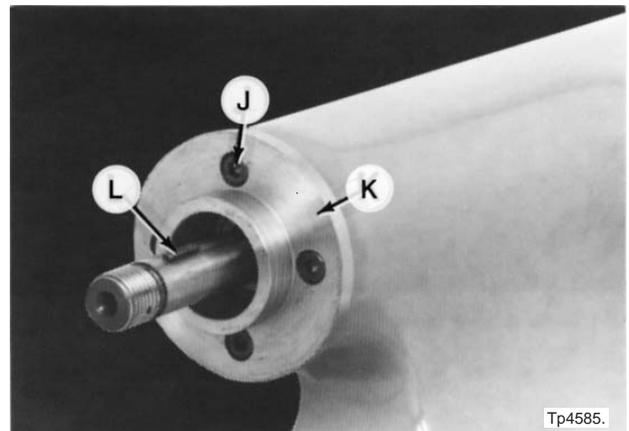
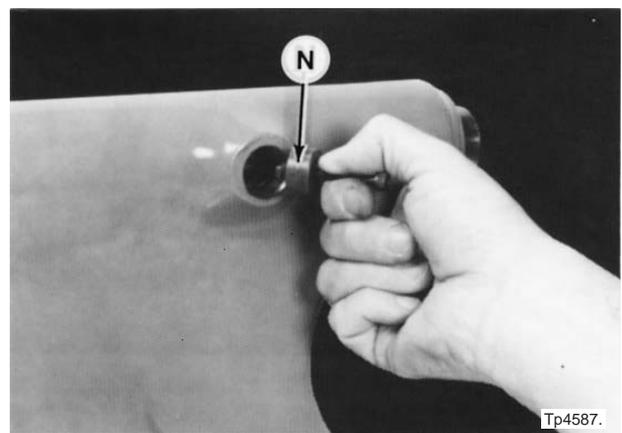

Figure 6.40 - Tailstock End Cap
Figure 6.42 - Tailstock Spindle Key Removal
- f) Remove four screws "J" and end cap "K", Figure 6.40, from the tailstock body.
- i) Remove spindle key "N", Figure 6.42, using one screw "J", Figure 6.40 .
Use one screw “J”, Figure 6.40, to replace spindle key “N”, Figure 6.42 .
- l) Line up the keyway in the spindle and replace spindle key “N”, Figure 6.42 .
Tighten screws “J”, Figure 6.40, alternately and evenly.
- n) Replace end cap “K” using four screws “J”, Figure 6.40 .